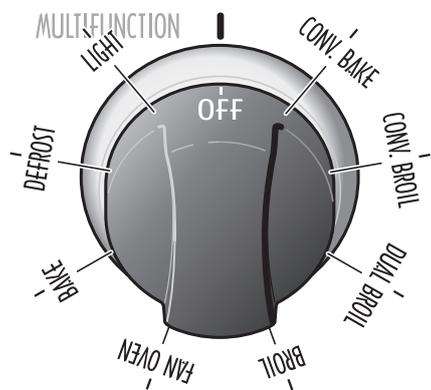

Fig. 3.3
**FUNCTION SELECTOR KNOB (LEFT and RIGHT OVEN)** (fig. 3.3)